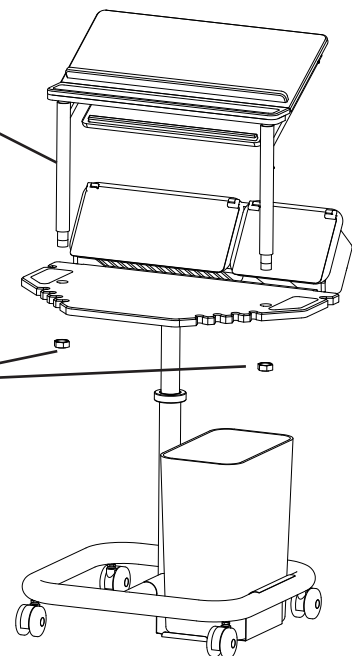

Fig 6.3
2. Use a wrench to tighten lock nuts to the Worktop and secure the Top Tier in place (Fig 6.3).